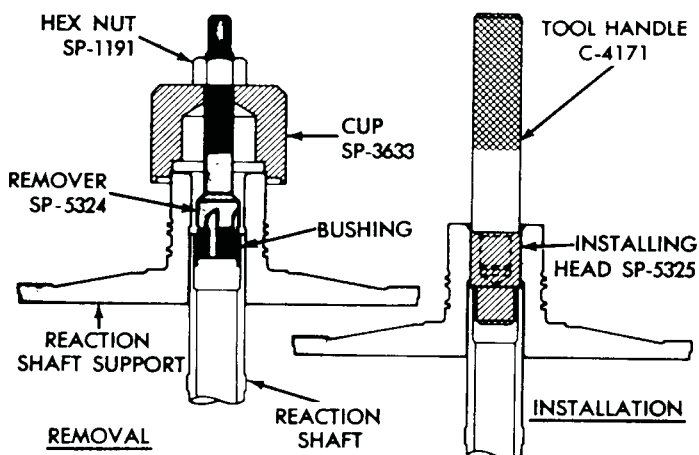

Fig. 11—Replacing Reaction Shaft Bushing
(1) Assemble remover Tool SP-5324, cup Tool SP-3633, and hex-nut Tool SP-1191 (Fig. 11).
(6) Slide a new bushing on installing head Tool SP-5325, and start them in the bore of reaction shaft (Fig. 11).
(7) Support reaction shaft upright on a clean smooth surface and install handle Tool C-4171 in installing head. Drive bushing into the shaft until tool bottoms.
(8) Thoroughly clean reaction shaft support assembly before installation.